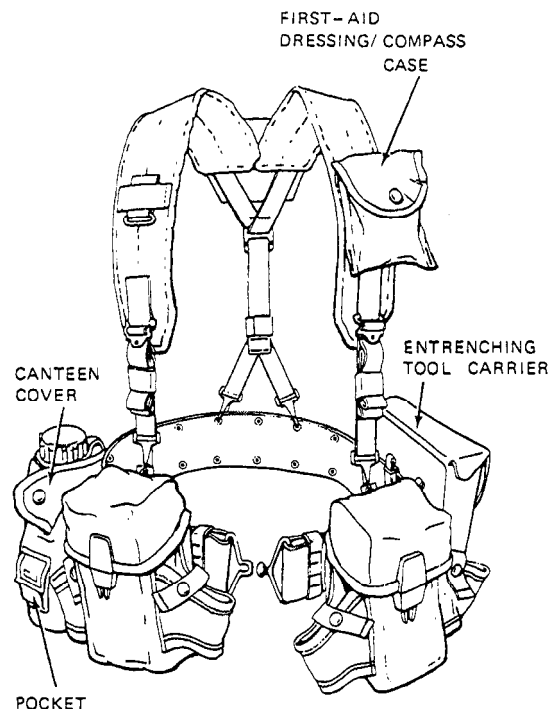

Figure 2-6.—Attaching entrenching tool carrier canteen cover, and first aid dressing/compass case.
Attach the carrier to the belt on the left side by means of the two slide keepers on the back of the carrier as close as possible to the ammunition pouch. (See fig. 2-6.)
- Attach the cover onto the right side of the belt by means of the two slide keepers on the back. Attach it as close as possible to the ammunition pouch (See fig. 2-6.)
This case can be attached by means of the slide keeper on the back of the case in either of the following positions: (See fig. 2-6.)